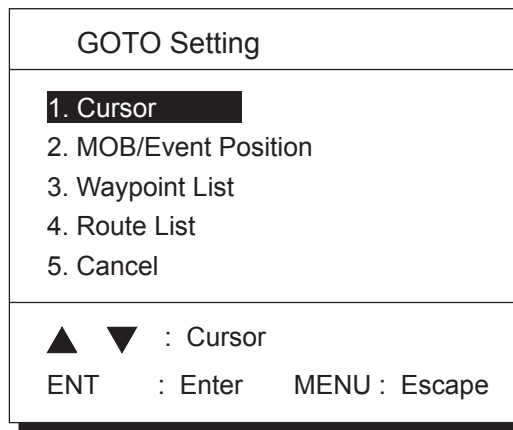

Figure 5-2 GOTO setting menu
- 1) Press the **GOTO** key. The menu shown in Figure 5-2 appears.